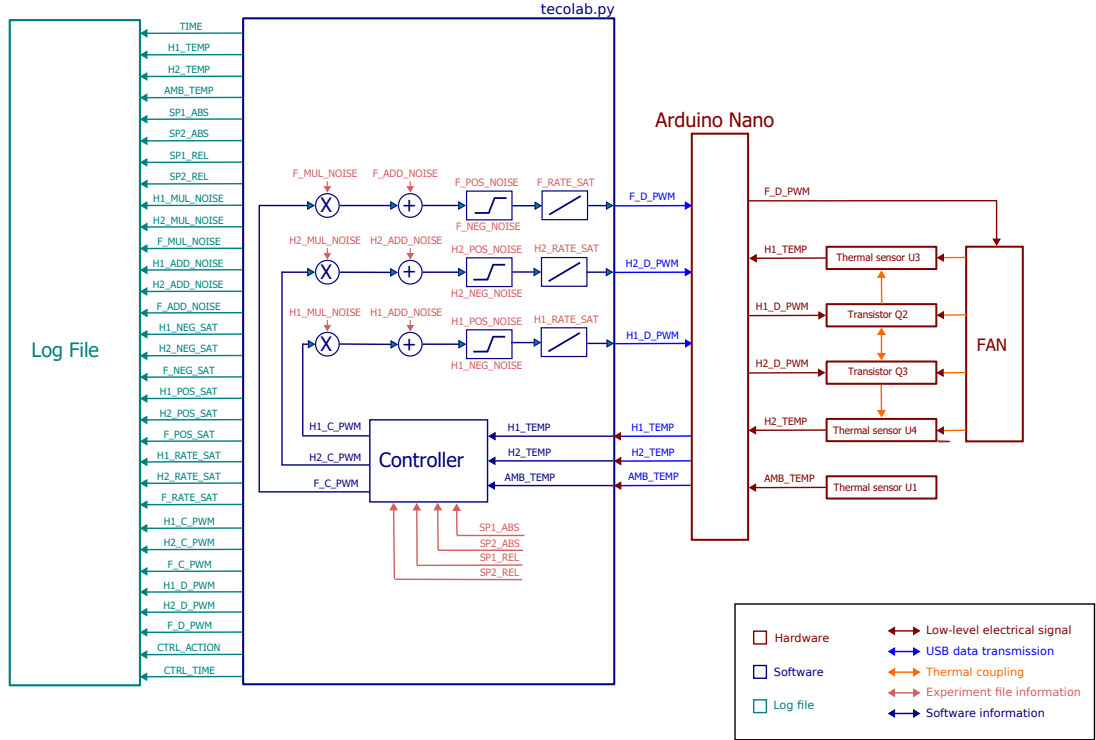

Figure 4.1: Block Diagram of TeCoLab Experiment
TeCoLab operates with three distinct types of files, each playing a different role in the functionality of the system and analysis of the generated data. The relationships among these files and their connection to the hardware are detailed in Figure 4.1.
1. **Experiment File (.csv):** Located in TeCoLab/Software/Experiments. This file, provided by the user, defines the experiment setup, which includes details such as temperature setpoints, disturbances, and other parameters necessary for the description of the experiment. In the Figure 4.1, the experiment file is responsible to provide the information in pink. Refer to Section 4.1 for a comprehensive guide on creating experiment files.